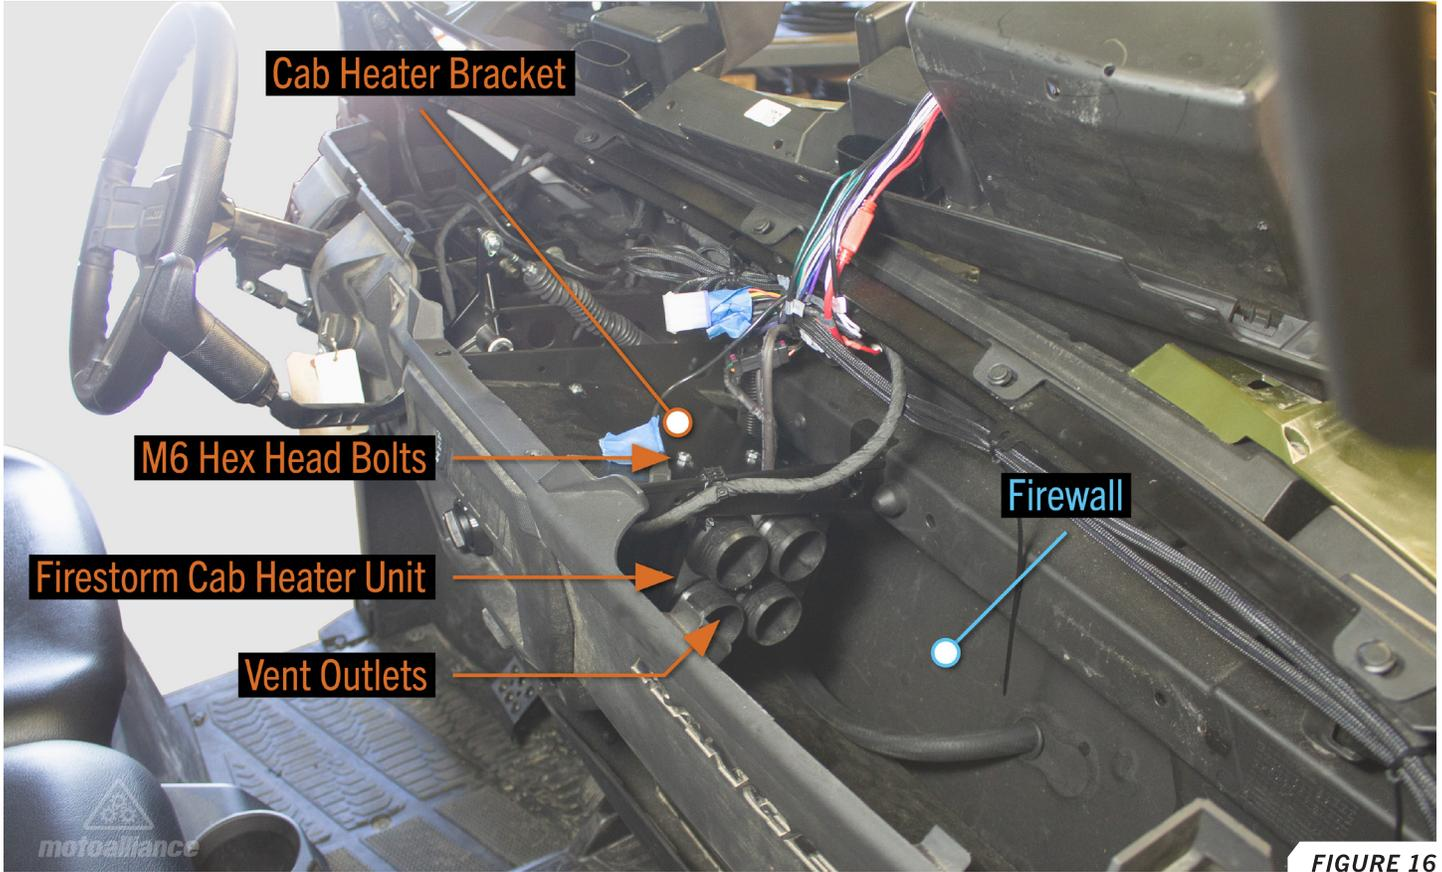

FIGURE 16
29. Secure the FIRESTORM Cab Heater Unit to the Cab Heater Bracket using the provided M6 hex head bolts. Ensure that the vent outlets are facing the passenger side of the vehicle and that the radiator hoses are on the firewall side of the cab heater. **FIGURE 16**